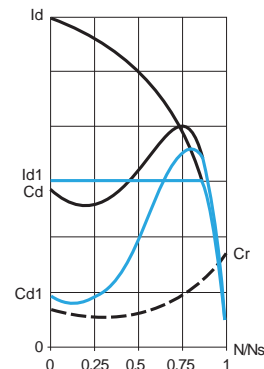

Figure 1
- Figure 1 shows the behaviour of the torque in relation to the starting current. Limiting the starting current I_s to a preset value I_{s1} will reduce the starting torque T_{s1} to a value which is almost equal to the ratio of the square of currents I_s and I_{s1} .